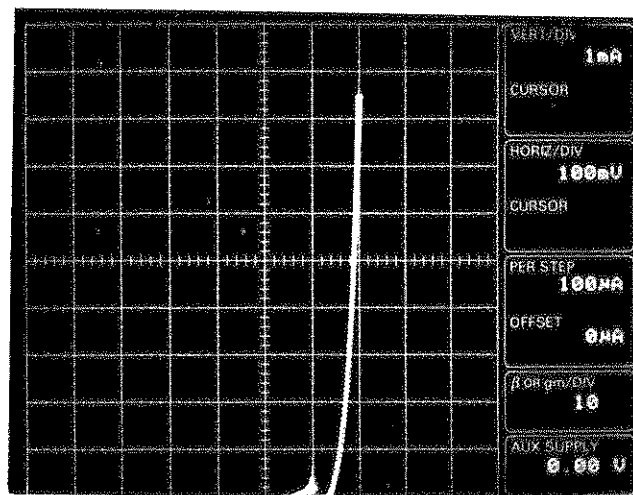

Figure 3-17. Stored envelope display.
76. Set the LEFT-RIGHT-STANDBY control to RIGHT and turn the VARIABLE COLLECTOR SUPPLY clockwise. Note the envelope display of the collector current vs base-emitter voltage for a value of base current. The display shows a horizontal min/max envelope of the storage display (see Figure 3-17). If you set the ACQ MODE control to VERT ENV, a vertical envelope is displayed on the crt.